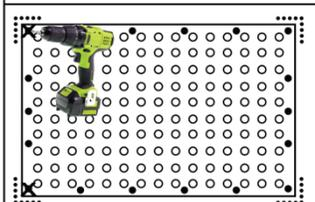
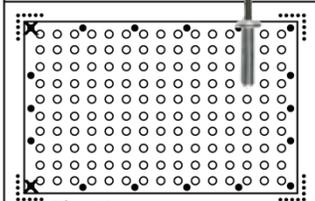

Fig. 3a
Fig. 3b
4. Place tile in marked location. Using a 1/4" masonry bit, drill 2" minimum deep holes (Fig. 3a) and insert 2 drive pin fasteners. (Fig. 3b) **NOTE: Do not drive pins in yet as they are to keep tile in place while drilling remaining holes.**